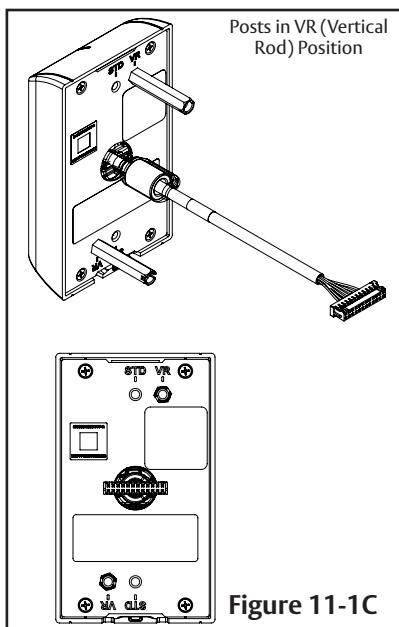

Figure 11-1C
For CVR and SVR on-center mounting, ensure the posts are in the offset (VR) positions (Figure 11-1C). Unscrew from STD position holes and screw into VR position holes if necessary.